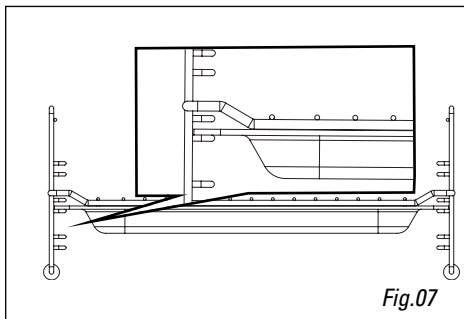

Fig.07
- **The grill + the enamel tray:** for roasting and to collect cooking juices, place the grill on the enamel tray (Fig.07).